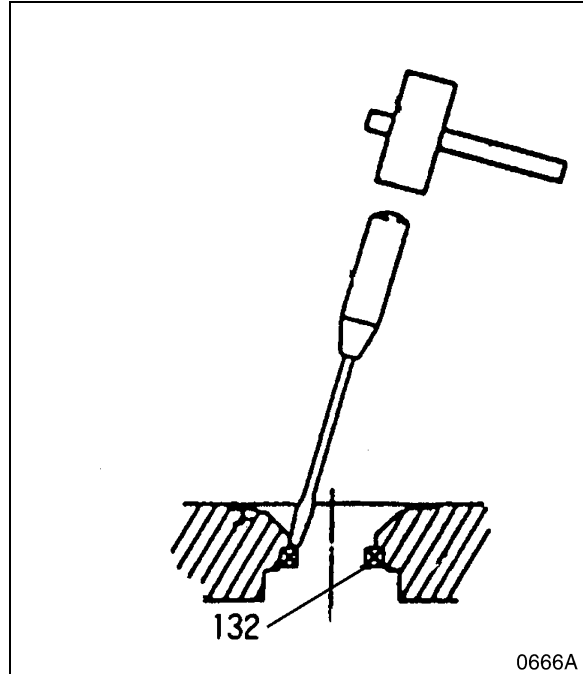

Figure 50
4. Following separation of the spindle (2, Figure 13), remove the O-ring (29) and discard it. The O-ring should be replaced with a new part any time the assembly is broken down. Turn the spindle around so that the oil seal (132) can be inspected for wear and/or damage. Use a flat screwdriver and hammer to punch out the old seal (as shown in Figure 50) if there is any evidence of wear or damage.